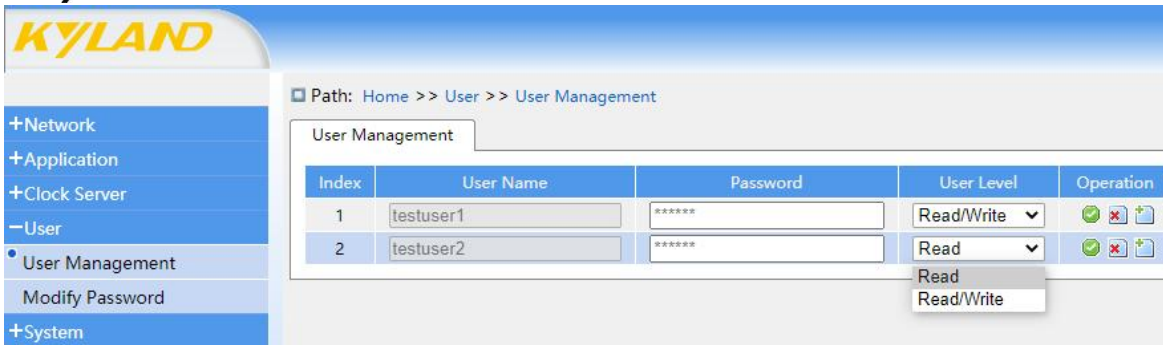

Figure 61 Modifying User Configuration
2. Modify the user configuration, as shown in Figure 61;